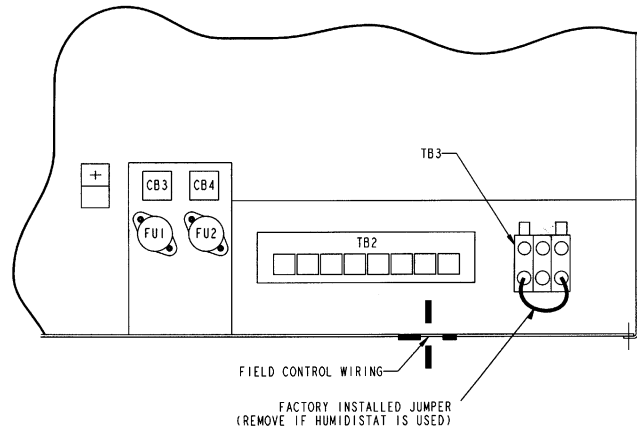
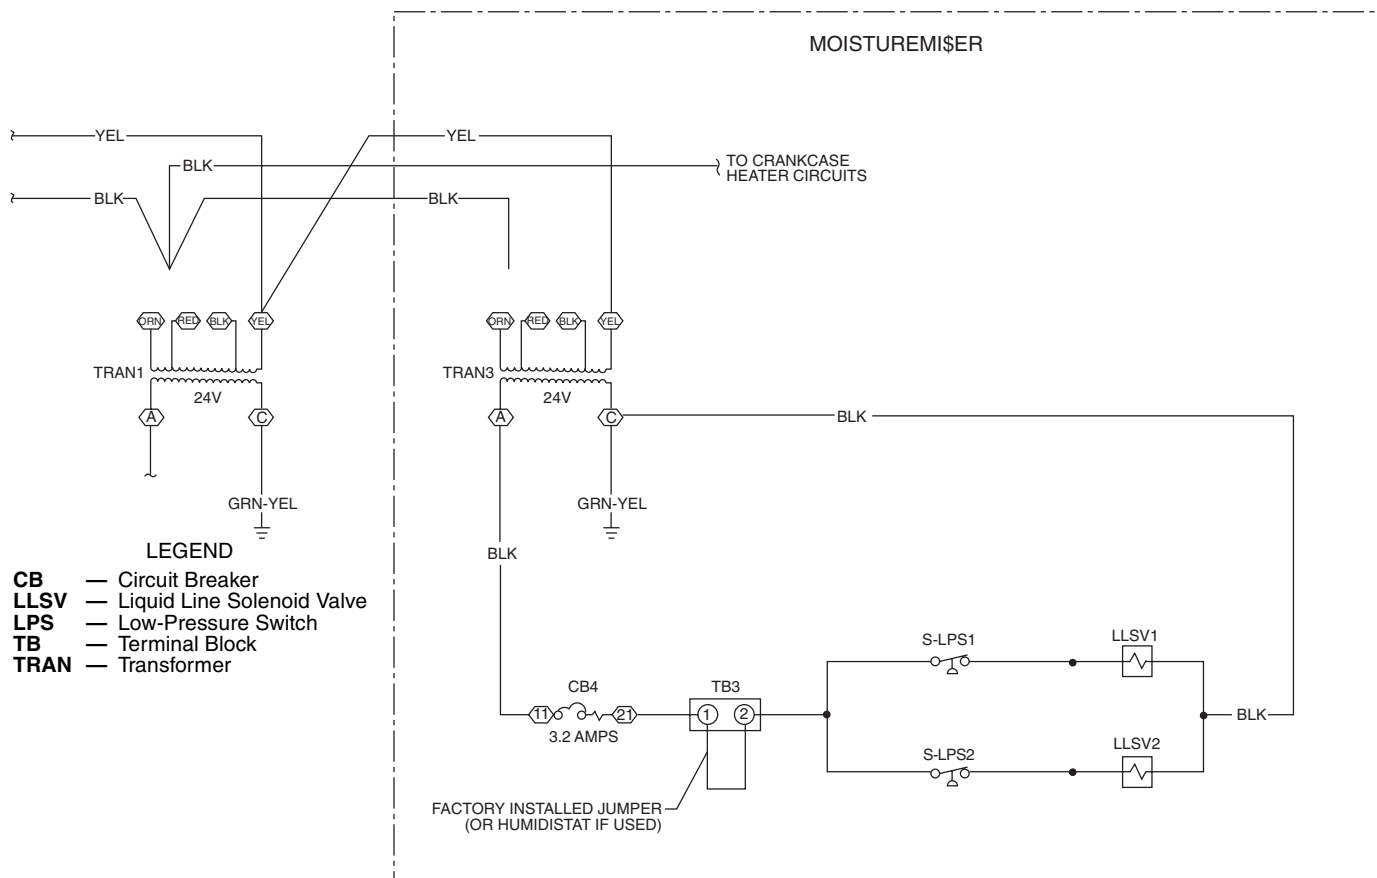
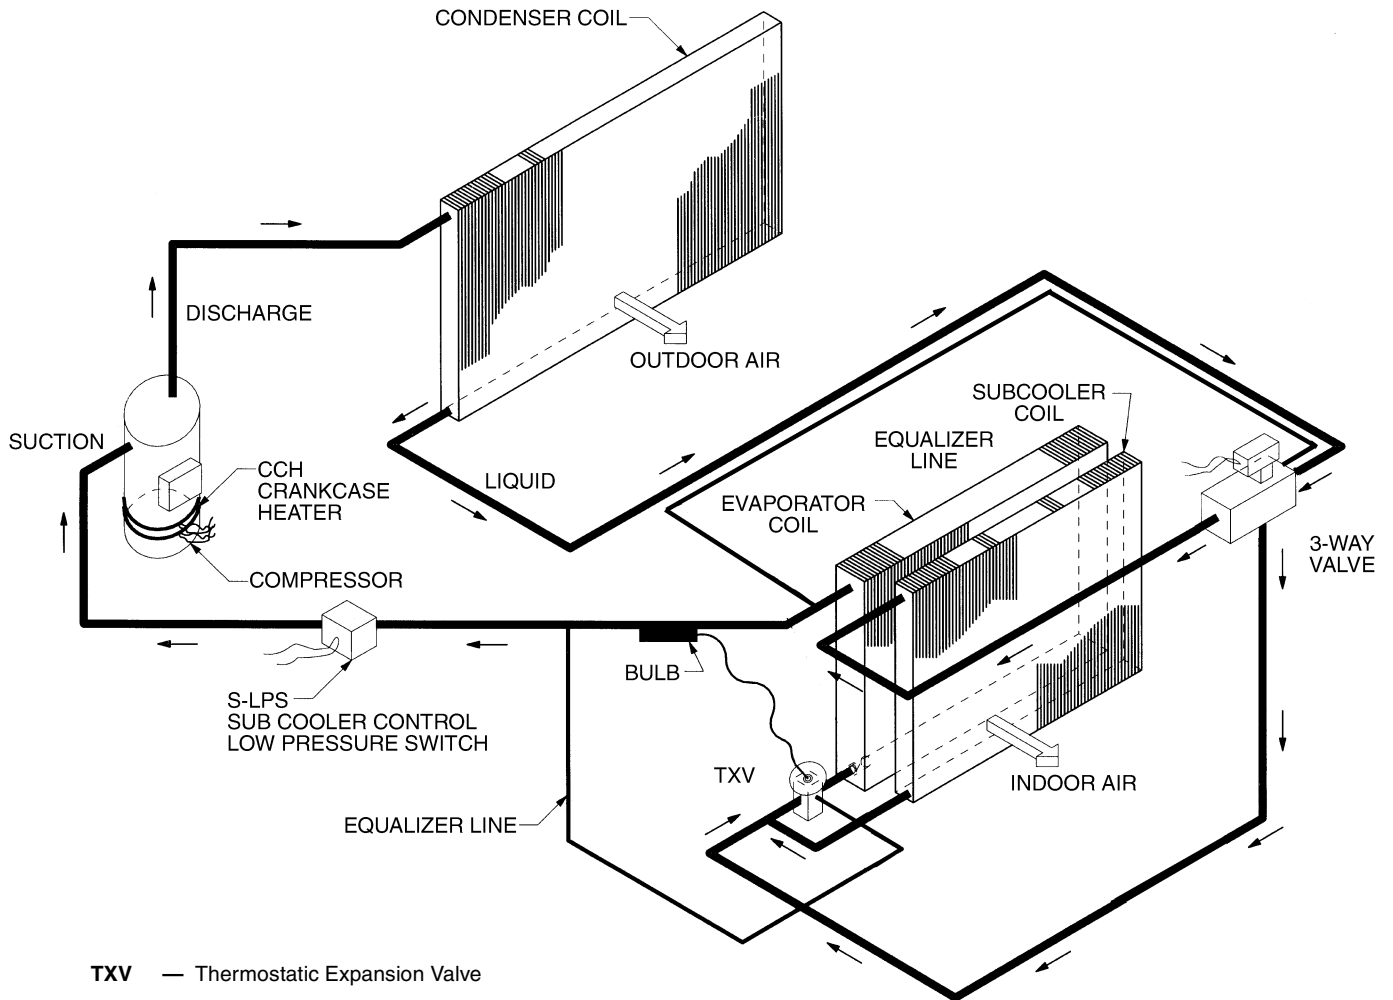

Fig. 43 — Typical MoistureMiSer Dehumidification Package Control Box
Fig. 42 — Typical MoistureMiSer Dehumidification Package Humidistat Wiring Schematic (460 V Unit Shown)
Fig. 44 — MoistureMi\$er™ Dehumidification Package Operation Diagram
2. Route thermostat cable or equivalent single leads of colored wire from Humidistat terminals through conduit in unit to the low voltage connection on the 2-pole terminal strip (TB3) as shown in Fig. 42 and Fig. 43. See Fig. 44 for operational diagram.